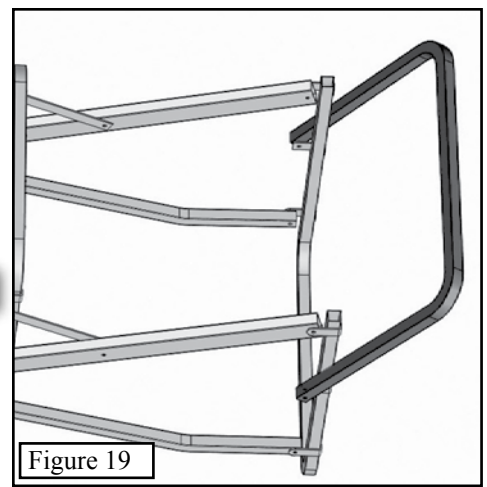

Figure 19
Step 1. Position the Gun Rest bar and the Arm Rest as shown in **Figure 19**.